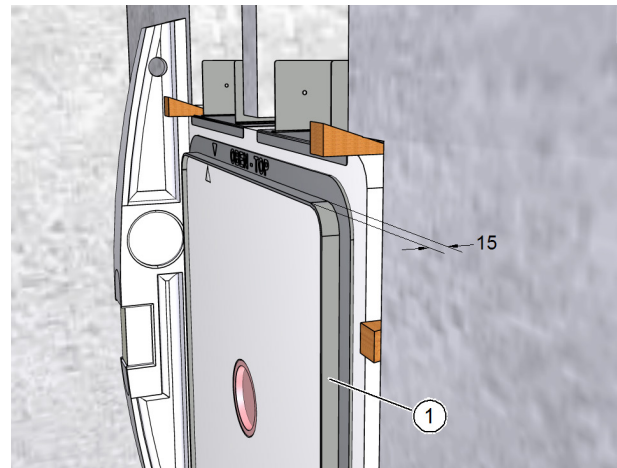

Fig. 15: Depth of plastering trim 15 mm
The plastering trim is 15 mm deep (see Fig. 15).
- ▶ If the interior wall is not perpendicular or flat, align the front surface of the plastering trim (item 1 in Fig. 15) parallel to a plaster stop bead running vertically.